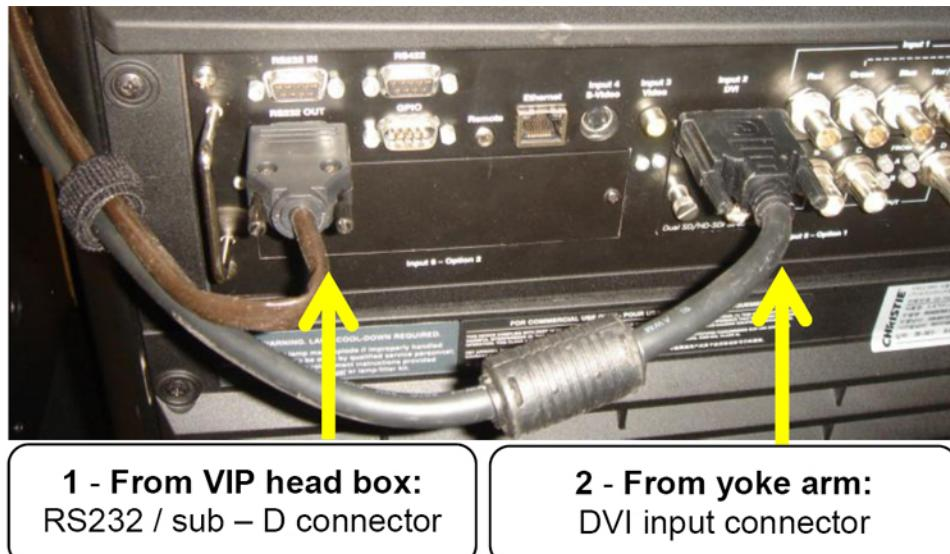

Figure 3-44 Roadster Projector Connections
5. Make the RS232 and DVI connections as shown in **Figure 3-44**. Ensure that the RS232 cable is plugged into the **RS232 OUT** connector.